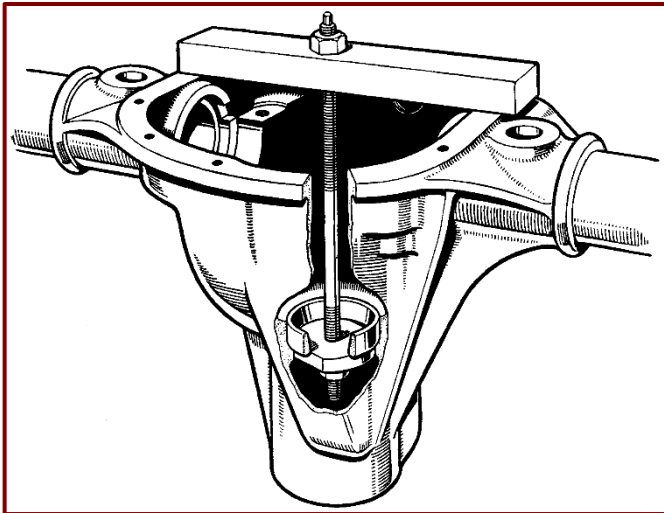

Figure 50. Extracting the Bearing Cup.
5. Examine the outer bearing for wear, and, if replacement is required, extract the bearing cup, using Tool No. SE.105 shown in *Figure 50*. The extractor plate should be installed behind the cup and then the drawback may be fitted together with the extractor bar which seats on the nose of the gear carrier. The bearing cup may then be withdrawn by tightening the nut on the drawback.
6. Remove the pinion inner bearing cup (*Figure 50*) using Tool No. SE.105 if the bearing requires replacement or adjustment of the pinion setting is to be undertaken. Take care of the shims fitted between the bearing cup and the housing abutment face. If the inner bearing is to be replaced it may be driven out, but the correct Service Tool should be used when the bearing is removed in order to carry out the pinion setting adjustment.